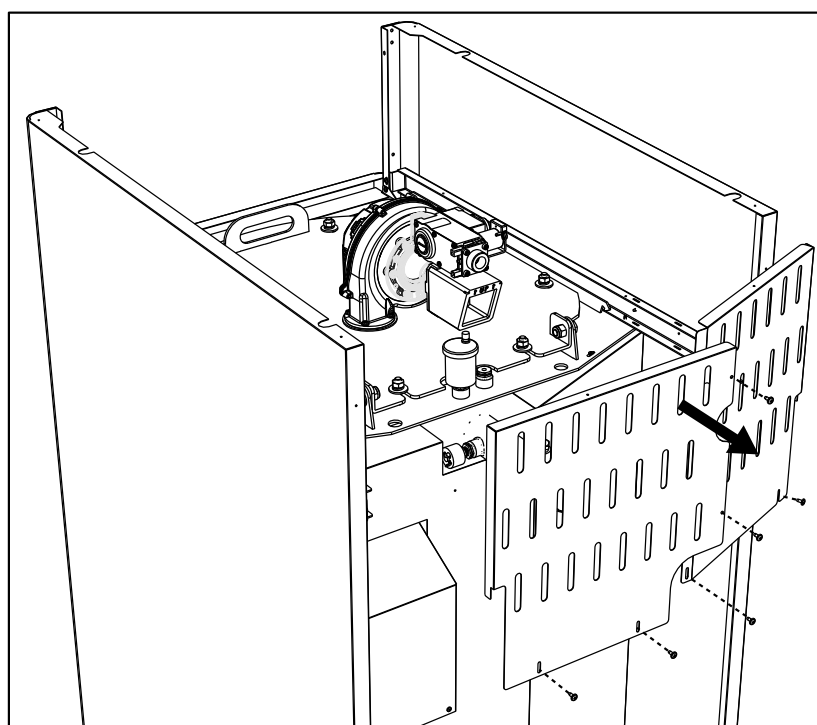

fig. 69
- Remove the rear panels (fig. 69).